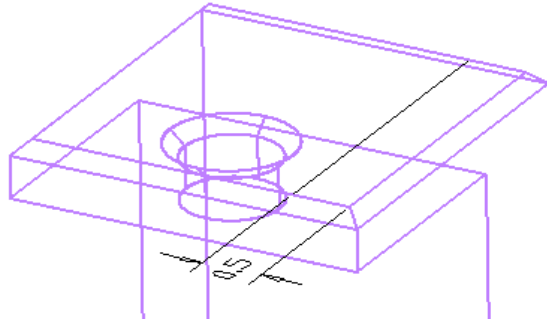

Figure Step 12
Step 12 Using what you learned previously, offset a construction line 0.5 units from the far chamfered edge of the model on its right side. (Figure Step 12)